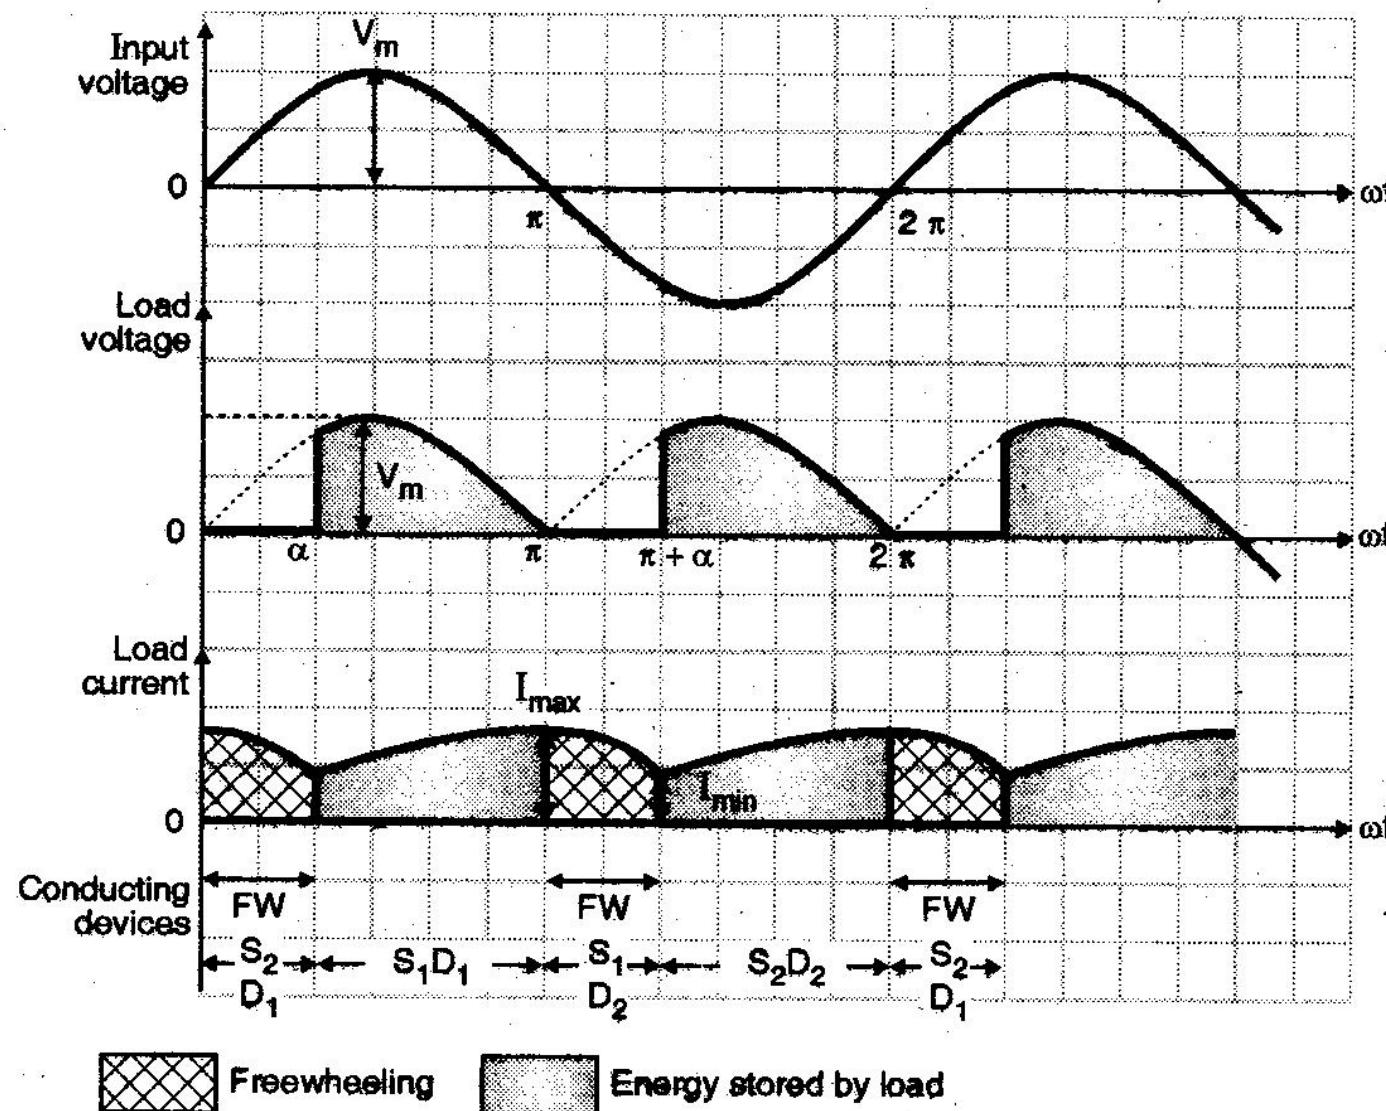

Fig. 2.21(a) : Continuous conduction mode (symmetrical configuration)
- During the freewheeling intervals the load current decreases from I_{\max} to I_{\min} as shown in Fig. 2.21 (a).